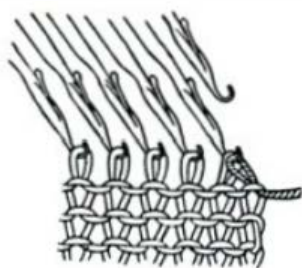

Fig. 66
- a. On the same side of the carriage, transfer the end stitch to the 2nd needle. (See Fig. 66)